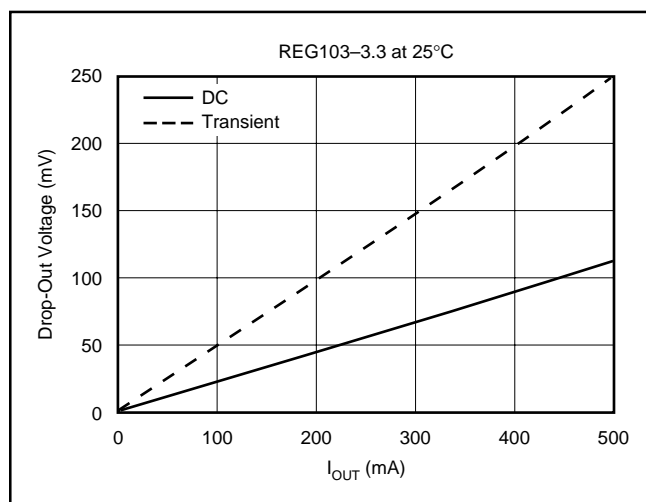

FIGURE 10. Transient and DC Drop-out.
The REG103 uses an N-channel DMOS as the “pass” element. When the input voltage is within a few hundred millivolts of the output voltage, the DMOS device behaves like a resistor. Therefore, for low values of V_{IN} to V_{OUT} , the regulator’s input-to-output resistance is the $R_{ds(ON)}$ of the DMOS pass element (typically 230mΩ). For static (DC) loads, the REG103 will typically maintain regulation down to V_{IN} to V_{OUT} voltage drop of 115mV at full-rated output current. In Figure 10, the bottom line (DC dropout) shows the minimum V_{IN} to V_{OUT} voltage drop required to prevent drop-out under DC load conditions.
For large step changes in load current, the REG103 requires a larger voltage drop across it to avoid degraded transient response. The boundary of this “transient drop-out” region is shown as the top line in Figure 10. Values of V_{IN} to V_{OUT} voltage drop above this line insure normal transient response.